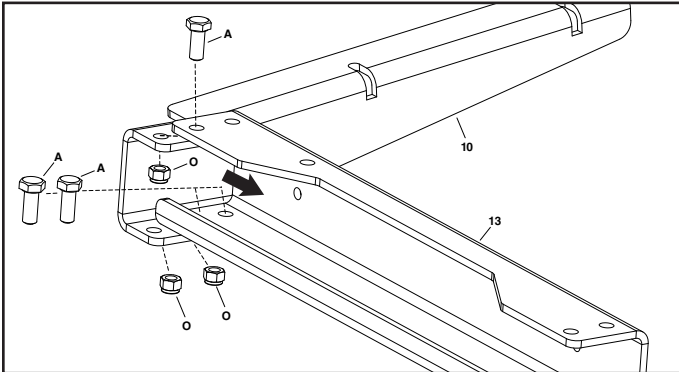

FIGURE 3
STEP 3: (SEE FIGURE 3)
- Attach the left hopper mount bracket (10) to the hopper mount bracket (13) using three hex bolts (A) and three nylock hex nut (O). Do not fully tighten yet.